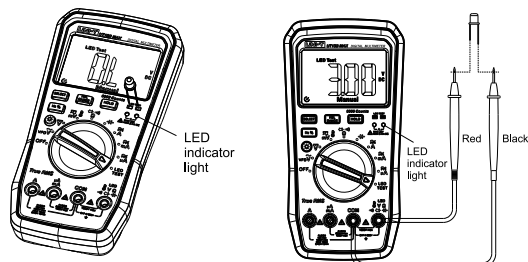

Figure 9
9. LED Measurement (UT18B MAX) (Figure 9)